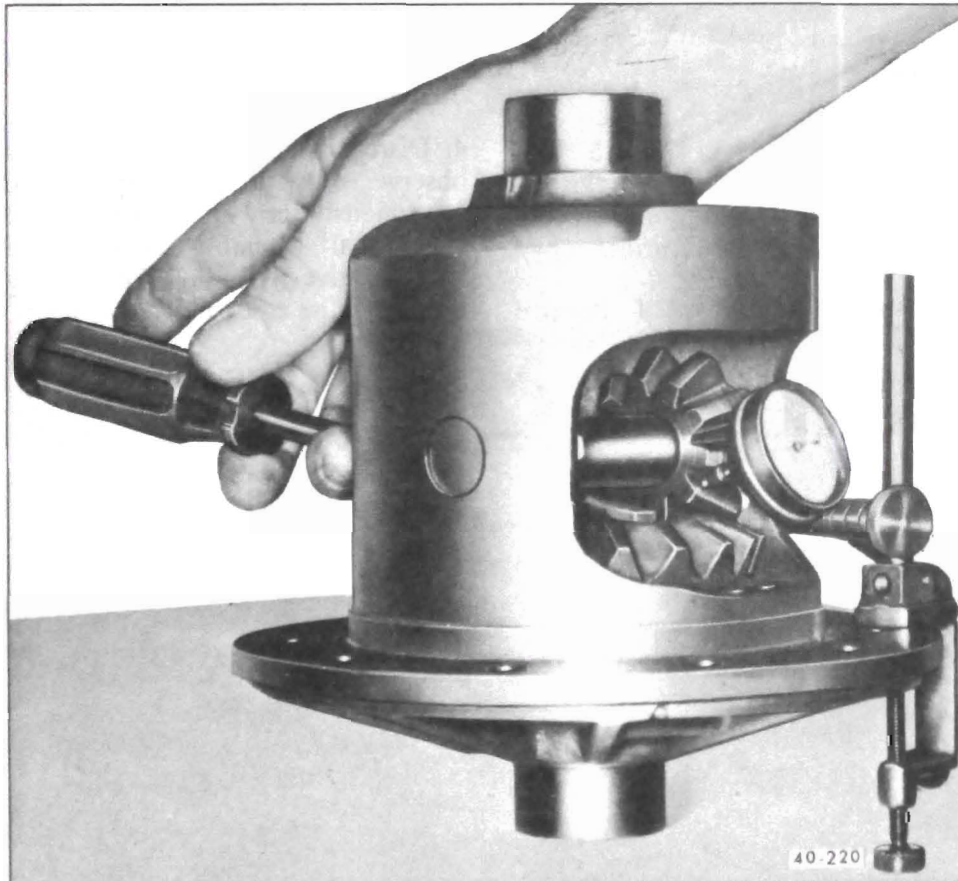

Figure 40-207 - Checking Pinion to Side Gear Clearance
c. Compress the clutch pack by inserting a screwdriver or other suitable wedge between the pinion shaft and the side gear. See Figure 40-207.